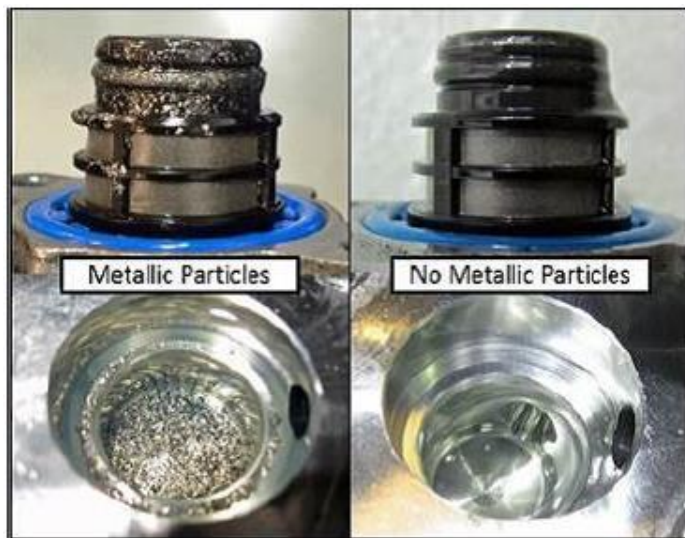

Figure 2. N290 Fuel Metering Valve and Valve Bore
1. Remove the N290 Fuel Metering Valve and inspect the valve and valve bore for the presence of metallic particles (**see Figure 2**).
2. If metallic particles are found on the N290 Fuel Metering Valve or in the valve bore (**see figure 2**), replacement of the high pressure fuel pump and major components of the fuel system are necessary. **Proceed to Section B – Fuel Sample Pre-Analysis**